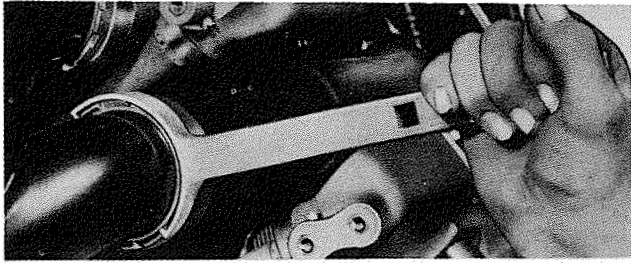

Figure 7-45. Loosening Front to Rear Intake Pipe Connection Nut
a. Loosen the intake pipe connection nuts between the front and rear pipes and at the rear cylinders using wrench 805569. See figure 7-45. Slide the nuts back on the pipe.